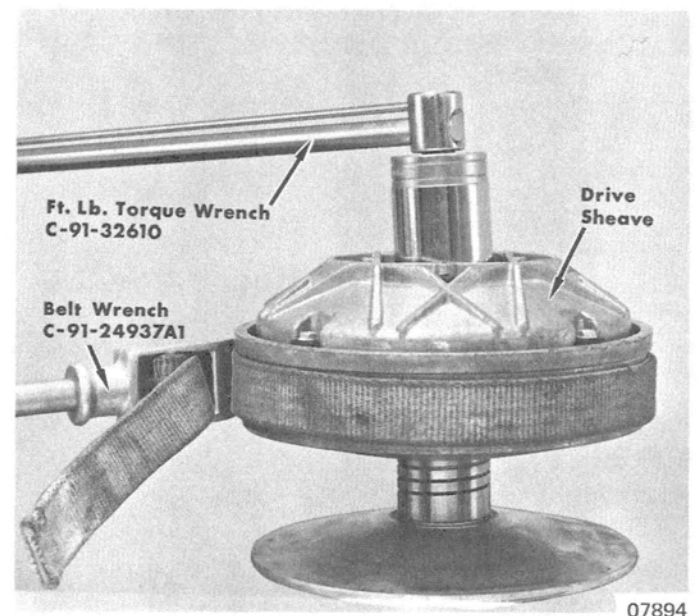

Figure 7. Torquing Retaining Screw
6. Place drive sheave on a suitable shaft or 8" bolt clamped in vise. Using Belt Wrench (C-91-24937A1), hold sheave and torque retaining screw to specification as shown in Figure 7. (Refer to Section 8.)